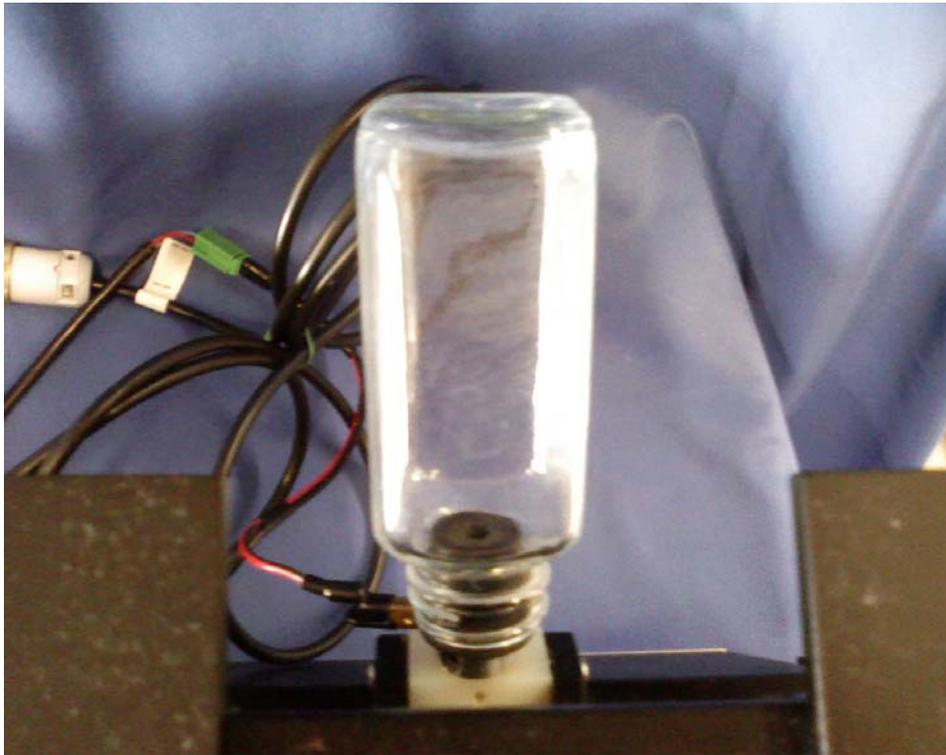

Fig 3 – Alligator clip is connected to the bottle
- Attach the alligator clip to the screw underneath the bottle (see Fig 3)